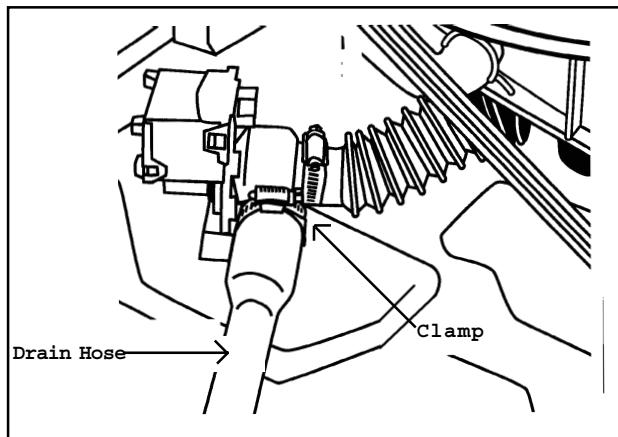

Figure 6-10
4. With access into the machine compartment, spread a towel under the connection of the drain hose to the pump. Loosen the clamp and remove the drain hose (**Figure 6-10**).